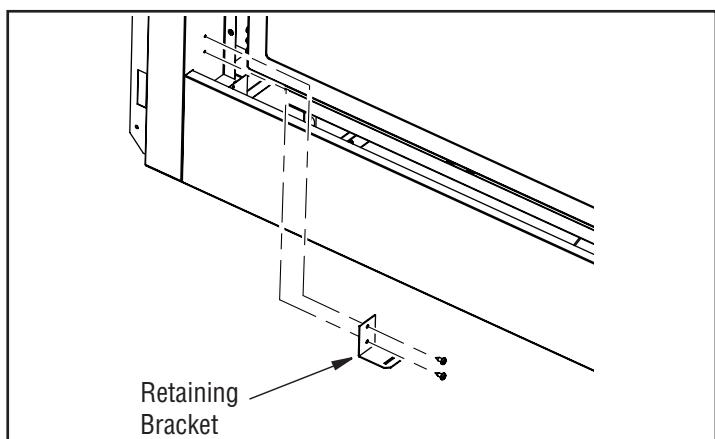

Figure 41 - Installing Access Door Retaining Brackets for See-Thru Applications
1. Screw access door retaining brackets into the inner side face using 2 screws on both the left and right side as shown in *Figure 41*.